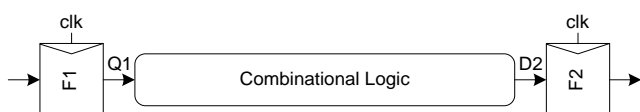

Fig. 3
- A sequential circuit using flip-flop is shown in Fig. 3. Assume the period of $clk = 20ns$, max clock-to-q delay $t_{pcq} = 2ns$, min clock-to-q delay $t_{ccq} = 0.5ns$, max data-to-q delay $t_{dcq} = 2ns$, min data-to-q delay $t_{ccq} = 1.5ns$, setup time = $1.2ns$, and hold time = $2.8ns$. (10%)